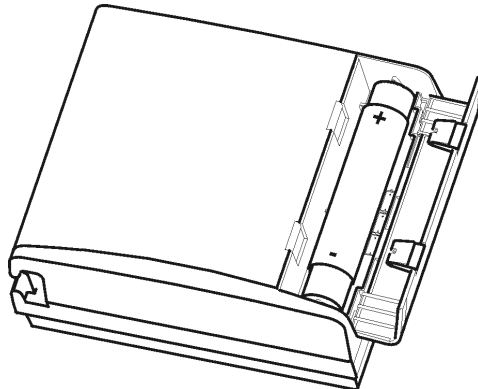

Figure 8
2. Place the cylinder with the batteries into the battery case in the direction indicated on the unit (see Figure 8 below).